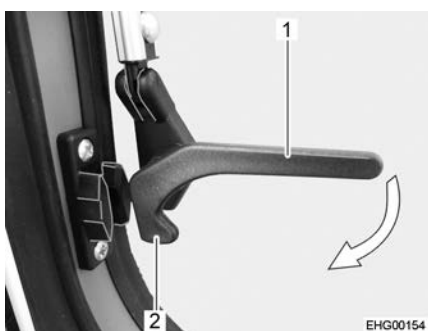

Fig. 62 Catch lever, on the side ("open" position)
- Turn the catch levers on the side (Fig. 62,1) a quarter turn towards the window frame until the locking catch (Fig. 62,2) engages.